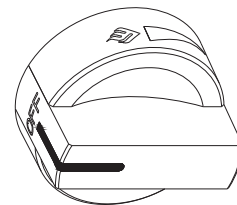

Fig. 11
2. Push and turn the knob slowly counterclockwise to the ignite position () as shown in **Fig. 11**. Keep pushing until the burner lights and then release. Repeat for additional burners.